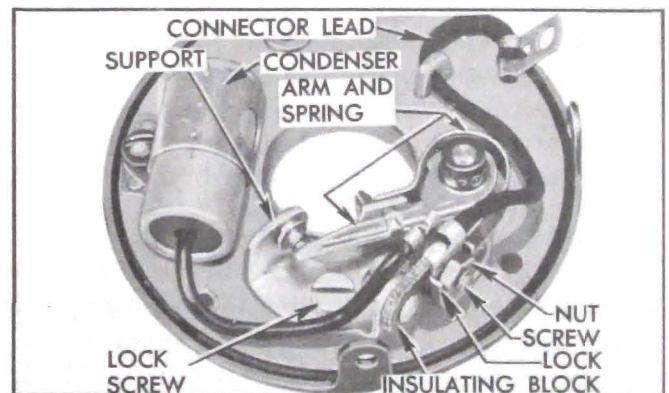

Figure 10-55—Parts Installed on Breaker Plate
9. Attach condenser connector lead, breaker arm spring, lock, and terminal connector lead to insulating block on contact support by means of the screw and nut. The head of screw and condenser lead terminal must be on inner side of block toward contact points, and the breaker arm spring, lock, connector lead terminal and nut must be on the other side of block in the order named. See figure 10-55. Leave screw just loose enough so that the screw can be shifted in the slotted insulating block.